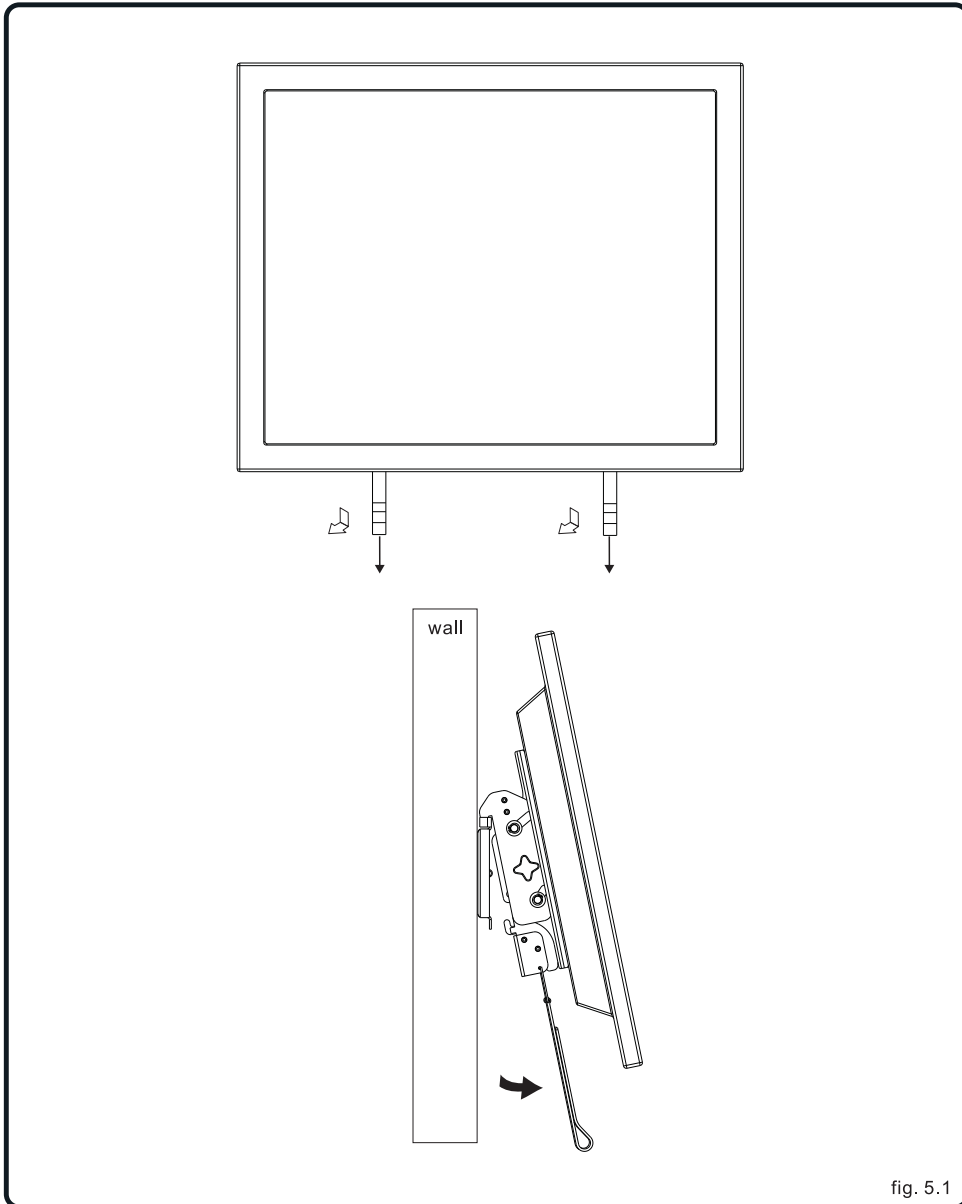

fig. 5.1
- 5 To remove screen from mount, unfold the velcro and pull down the two ropes at the same time to free the bracket, then swing screen away from mount and lift screen off, as shown in fig. 5.1.